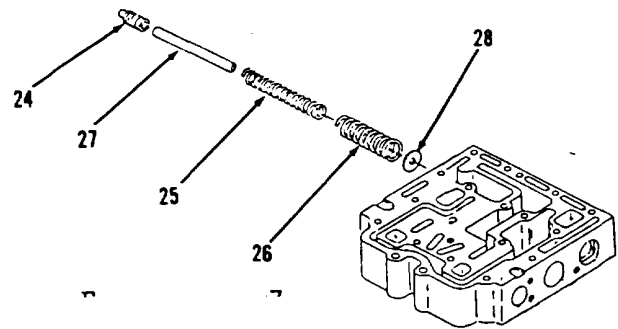

Figure 14-107.
2. Install six spacers (28), spacer (27), springs (26 and 25) and piston (24, Figure 14-107).